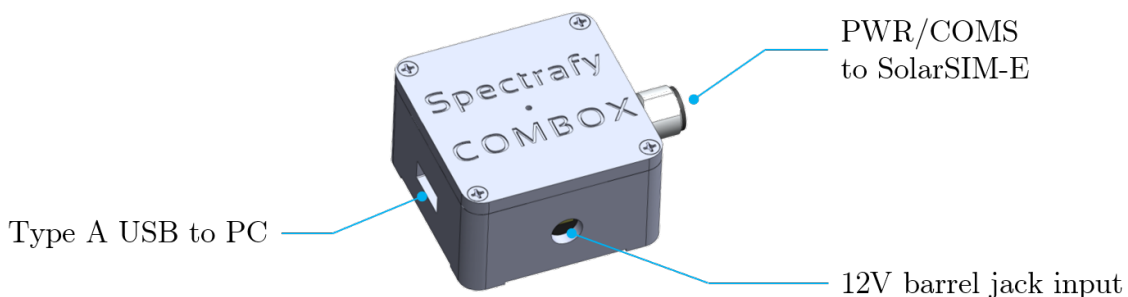

Figure 3: The COMBOX interfaces SolarSIM-E to a PC.
Option 1 uses a COMBOX - a seamless link between a PC and the SolarSIM-E, as shown in Figure 3. First, an AC wall adaptor is plugged into a receptacle and its barrel jack is plugged in to a COMBOX. Then a standard 6 ft USB cable is connected to the COMBOX and the PC's USB port. Finally, a 10 m RS-485 communication cable is connected to the COMBOX and the SolarSIM-E. This option is ideal for test sites and locations where one has the access to a personal computer (PC) or when quick, in-field spectral measurements are necessary with a laptop.